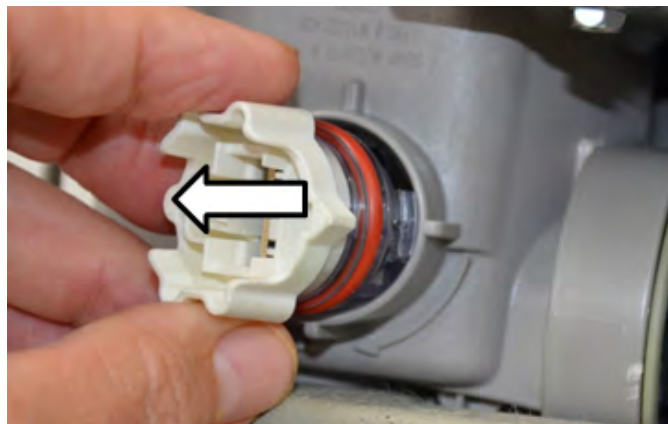

Figure 4
2. Pull out to remove, see figure 4.